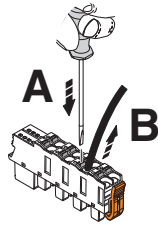

Figure 6-6 Removing the cable
- To remove a cable from the terminal point, press on the spring lever with a suitable tool (e.g., bladed screwdriver with a blade width of 2.5 mm). This opens the push-in connection of the relevant terminal point (Figure 6-6, A).
- Remove the conductor (Figure 6-6, B).